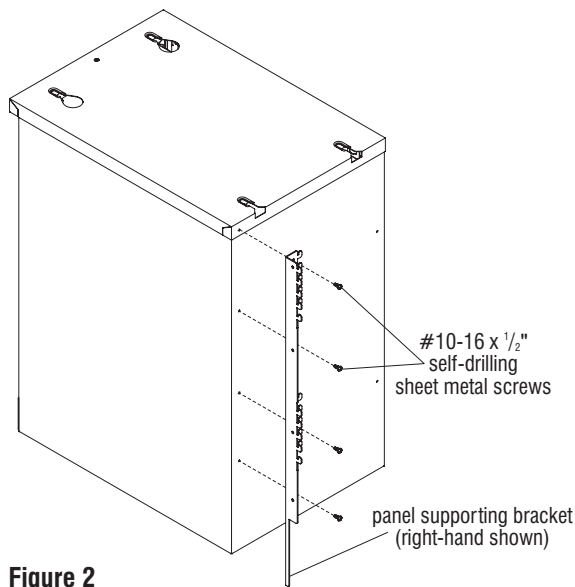
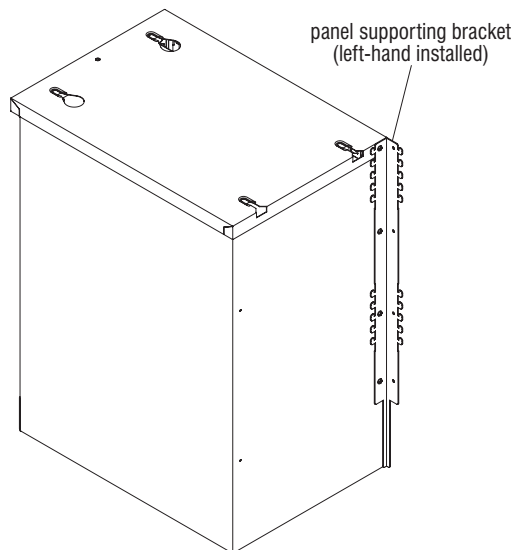

Figure 2
Figure 3
1. Position the panel supporting bracket along the top and side edge of the pedestal as shown. Be sure the teeth are facing up (Figure 2).
2. Using the four #10-16 x 1/2" self-drilling sheet metal screws provided, carefully secure the panel supporting bracket to the cabinet (Figure 2 or 3).
Note: For right-hand installations, align the supporting bracket with the right side of the cabinet (Figure 2). For left-hand installations align the supporting bracket with the left side of the cabinet (Figure 3).